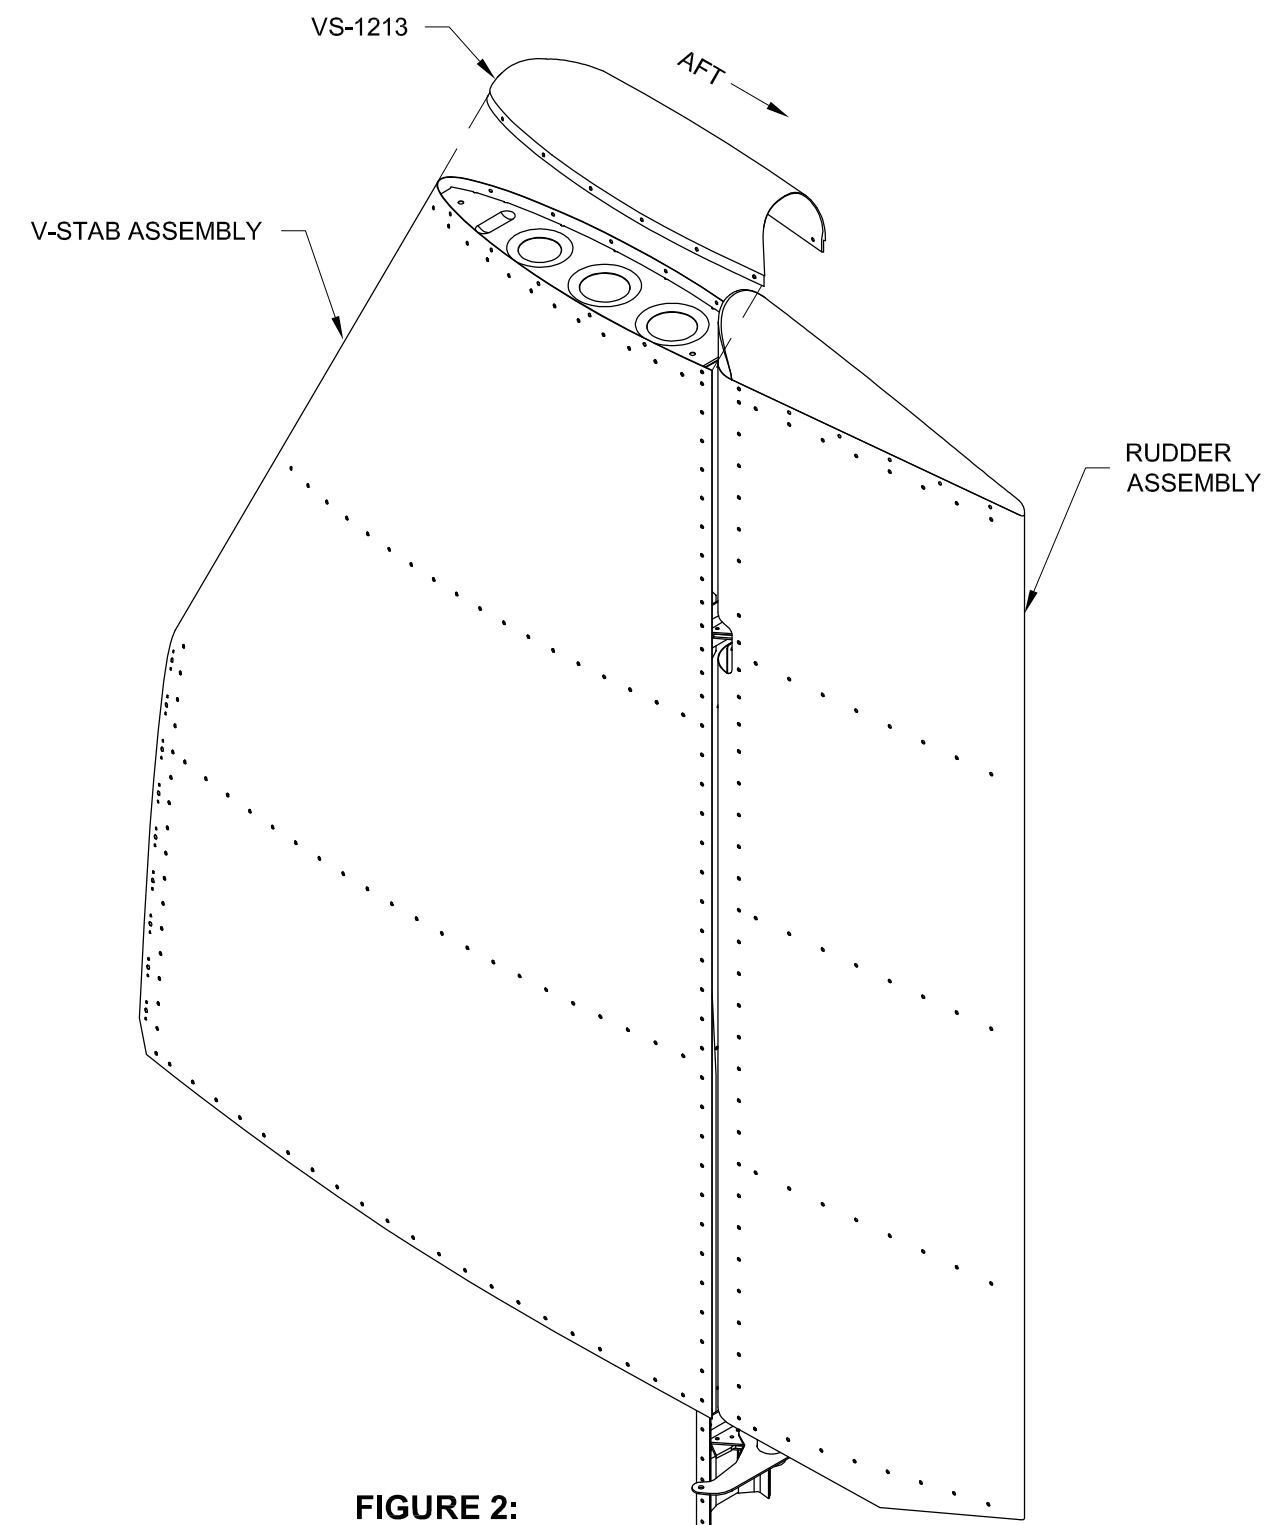

FIGURE 2:
Step 6: Place the VS-1213 in position as shown in Figure 2. Mark the aft edge of the VS-1213 to indicate any material that is within 1/8 in. [3.2 mm] of the Rudder Assembly. Remove the fairing, then trim to the marked areas to provide clearance for the Rudder Assembly. Repeat, as necessary, to achieve 1/8 in. to 1/4 in. [3.2 to 6.4 mm] clearance throughout the Rudder Assembly travel.